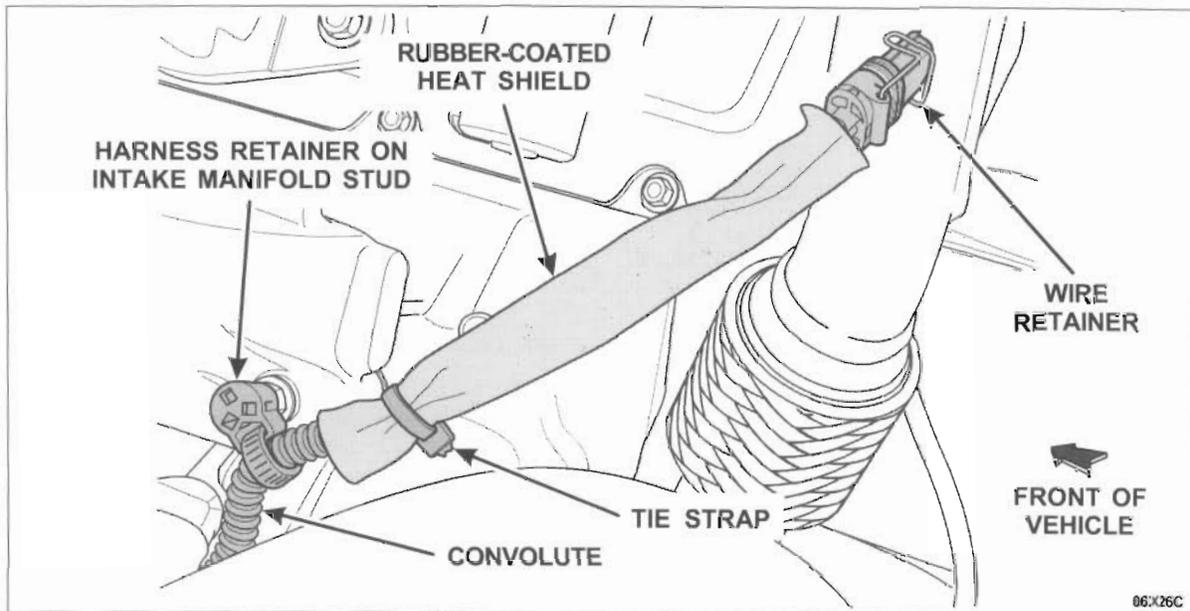

FIGURE 3
- a) Note the installed position of the wire retainer on the connector, then carefully remove it without bending it out of shape. See Figure 3.
- b) Cut off the plastic tie strap securing the heat shield to the harness, then slide the shield off the harness. See Figure 3.
- d) Cut off and remove the harness retainer from the intake manifold stud. See Figure 3.
2. Cut off and remove the harness retainer from the intake manifold stud. See Figure 3.
3. Remove and discard the wire retainer from the connector. Then cut off the tie strap and remove and discard the rubber-coated heat shield from the harness. See Figure 3.
4. Cut off and discard the convolute from the IPR harness to expose approximately 15-20 cm (6-8 in) of the harness wiring. See Figure 3.